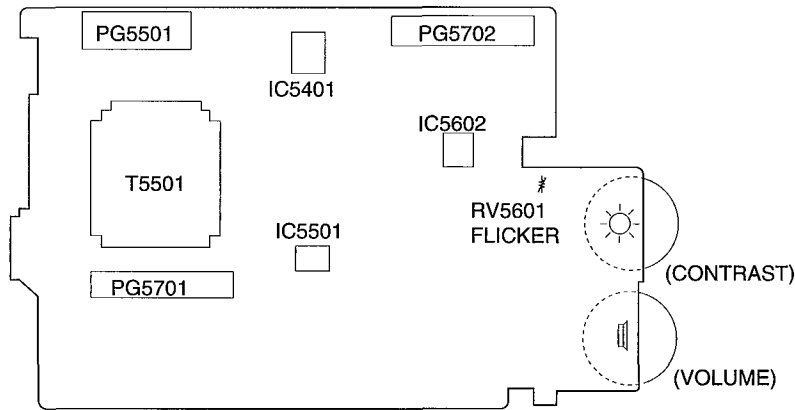

Fig. 2-101 LCD Circuit Board (Side-B)
(1) LCD Flicker Adjustment (Fig. 2-101)